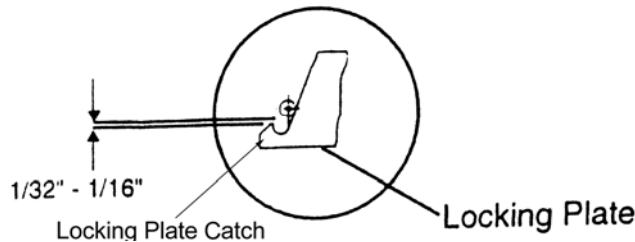

Figure 11
25. As you move the car door back and forth, align the device to obtain 1/32 in. to 1/16 in. clearance between the locking roller and the catch on the locking plate (see Figure 11).